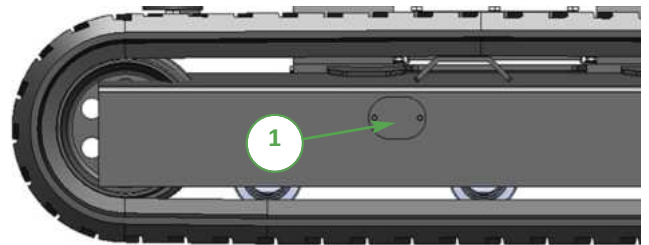

Fig. 1
The grease contained in the hydraulic track tensioner ram is pressurised. Never release grease nipple (No. 1, Fig. 1) for more than necessary to slowly release grease to a maximum of five turns. If the valve is loosened too much you risk expelling grease under pressure and possible injury to the machine operator. Remove gravel or mud when they are jammed between the sprocket and the track link before loosening the track.
- 1 Locate grease nipple under coverplate in side frame (Fig. 1) to access the adjustment system.
- 2 Locate grease nipple under coverplate in side frame to access to the adjustment system (No. 1, Fig. 1).